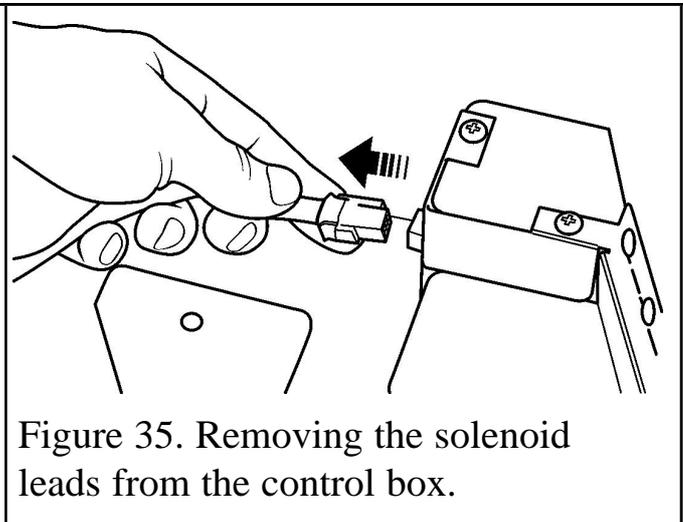

Figure 35. Removing the solenoid leads from the control box.
5. Disconnect the solenoid leads from the control box (See figure 35).